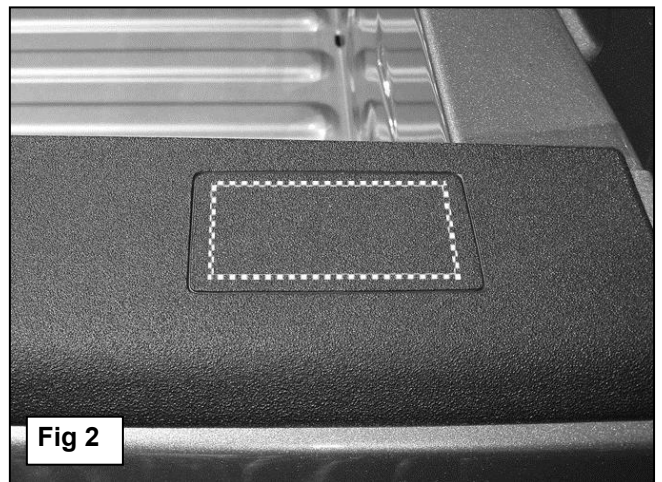

Fig 2
- Determine if the forward holes in the Brackets line up with the front stake pockets. **NOTE:** On some vehicles, the front stake pocket may be covered with a plastic bed cap. Remove or cut out the cover as required to gain access to the stake pocket, (**Figure 2**).